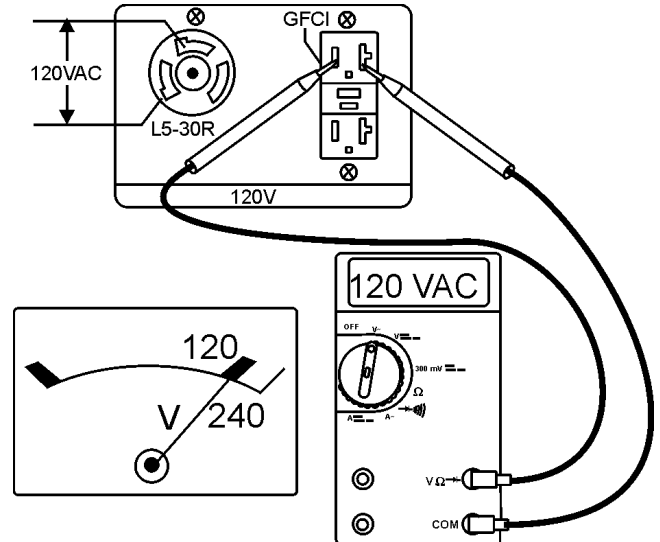

Figure 21. 120V GFCI/AUX. Receptacles
14. Read voltmeter on front panel of generator (Figure 21) and verify that 120 VAC is displayed. Using an external voltmeter as shown in Figure 21, verify that 120 VAC is present at the 120V twist-lock and GFCI duplex receptacles..